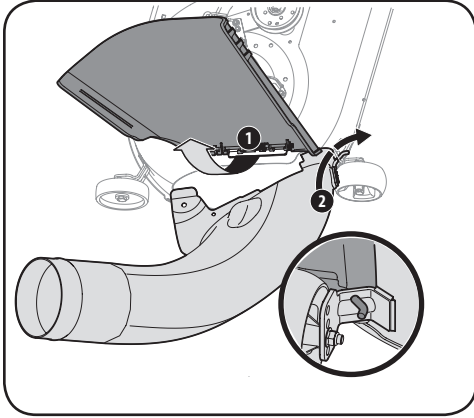

Figure 4-21
- With the tractor's discharge chute raised up and held open (1), install the chute elbow by placing the chute elbow mounting rod into the chute mounting tab (2), as shown in Figure 4-21.